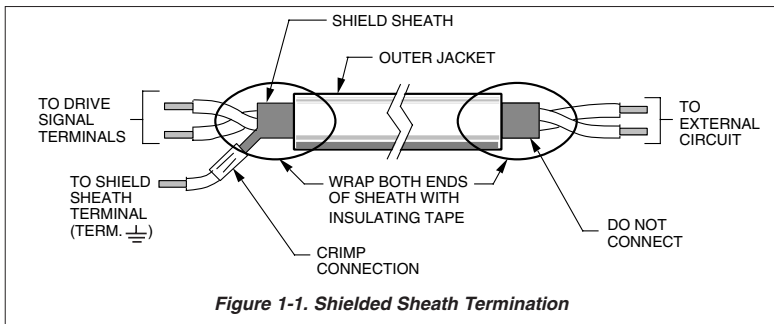

Figure 1-1. Shielded Sheath Termination
- Use twisted shielded or twisted-pair shielded wire (20-16 AWG [0.5 – 1.25mm²]) for control and signal circuit leads. The shield sheath MUST be connected at the Drive end ONLY (terminal ⊕). The other end should be dressed neatly and left unconnected (floating). See Figure 1-1.
- Signal leads and feedback leads (PG) must be separated from control leads main circuit leads, and any other power cables, to prevent erroneous operation caused by electrical noise.